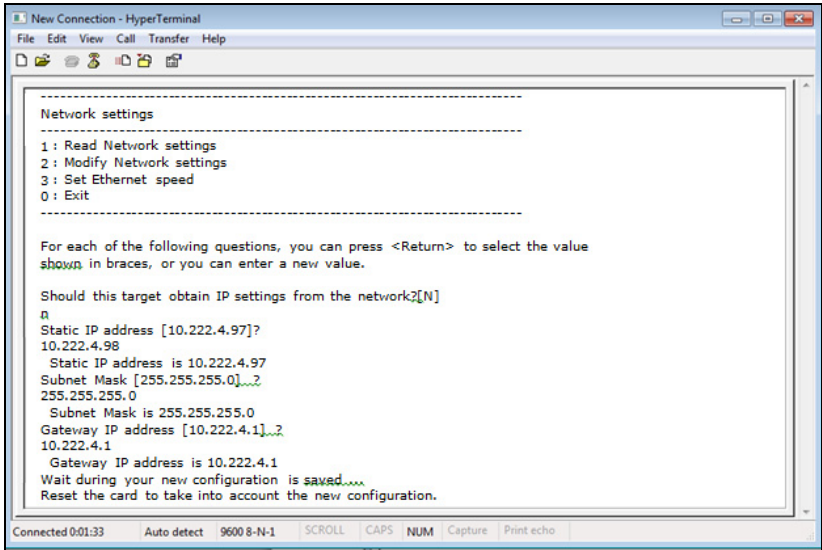

Figure 9. Select No for Manual
3. At the cursor prompt, enter **N** for “no,” in order to disable DHCP and manually set an IP address (see Figure 9).
4. Follow the instructions on the screen and enter the fixed IP parameters. Refer to the data you logged in the "Installation Checklist" on page 4. See Figure 9.